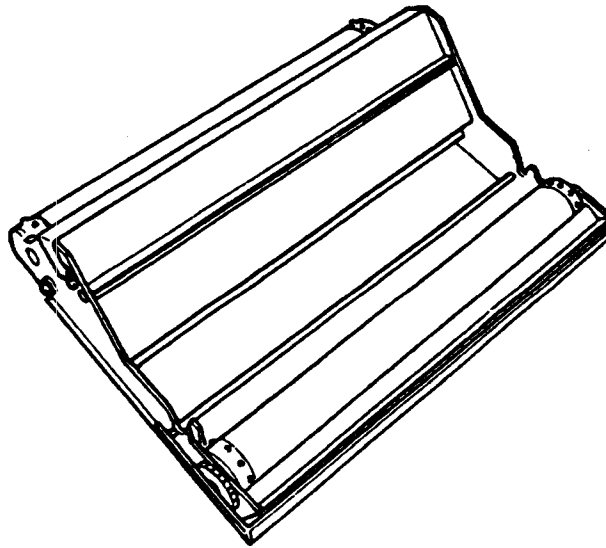

Figure 6.10
- (3) Turn the removed chart tray upside down so that the flat - bed side faces downwards. (See Figure. 6.10)